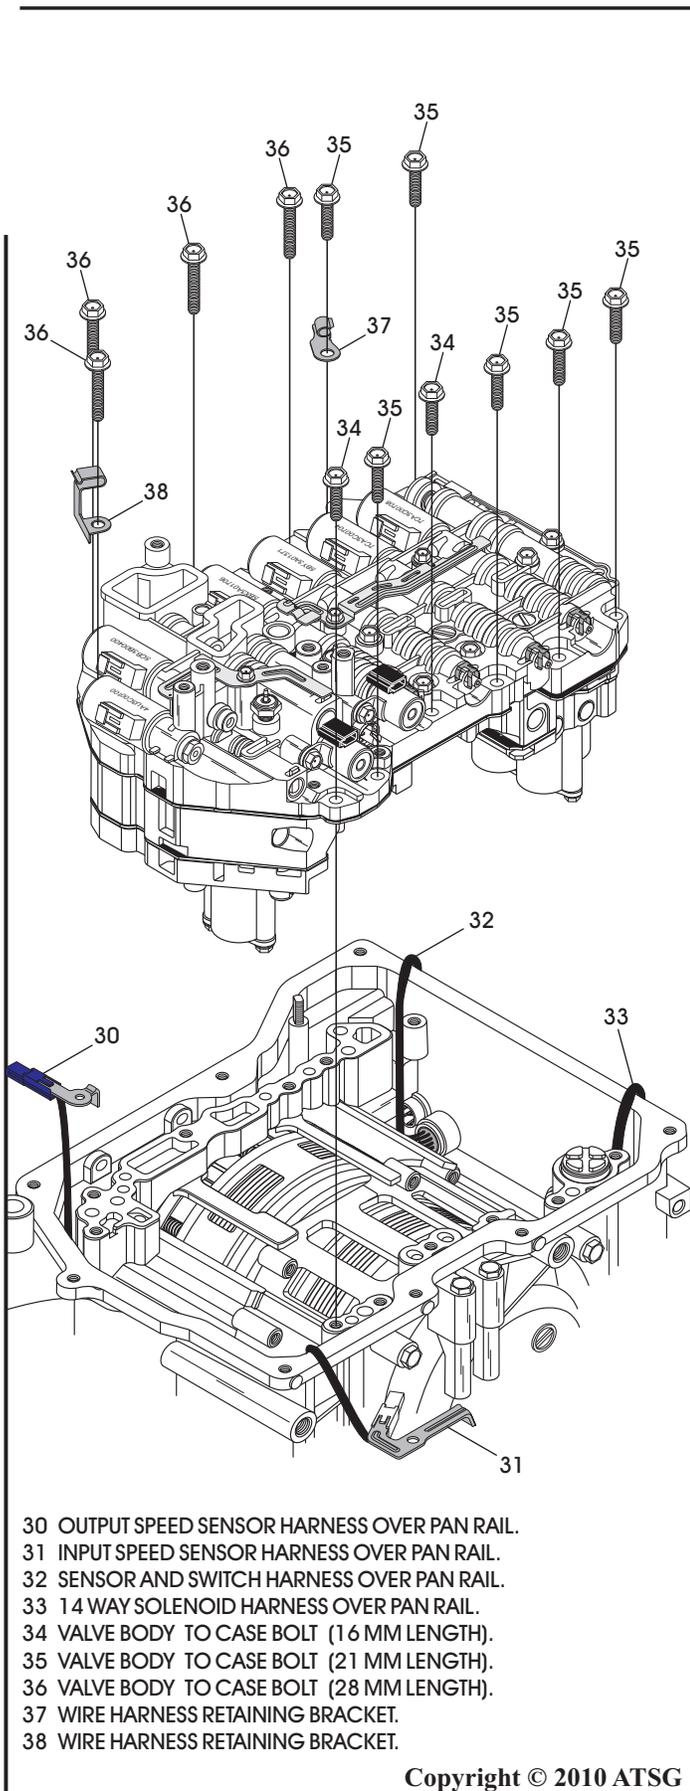

Figure 199
73. With all wire harness' laid over pan rail, install the completed valve body assembly onto case, as shown in Figure 199.
74. Install the 12 valve body to case bolts and wire the wire harness retaining brackets, as shown in Figure 199.
6. Install the temp sensor into the valve body bore, install retaining bracket and torque the retaining bolt to 11 N·m (97 in.lb.) (See Figure 199).